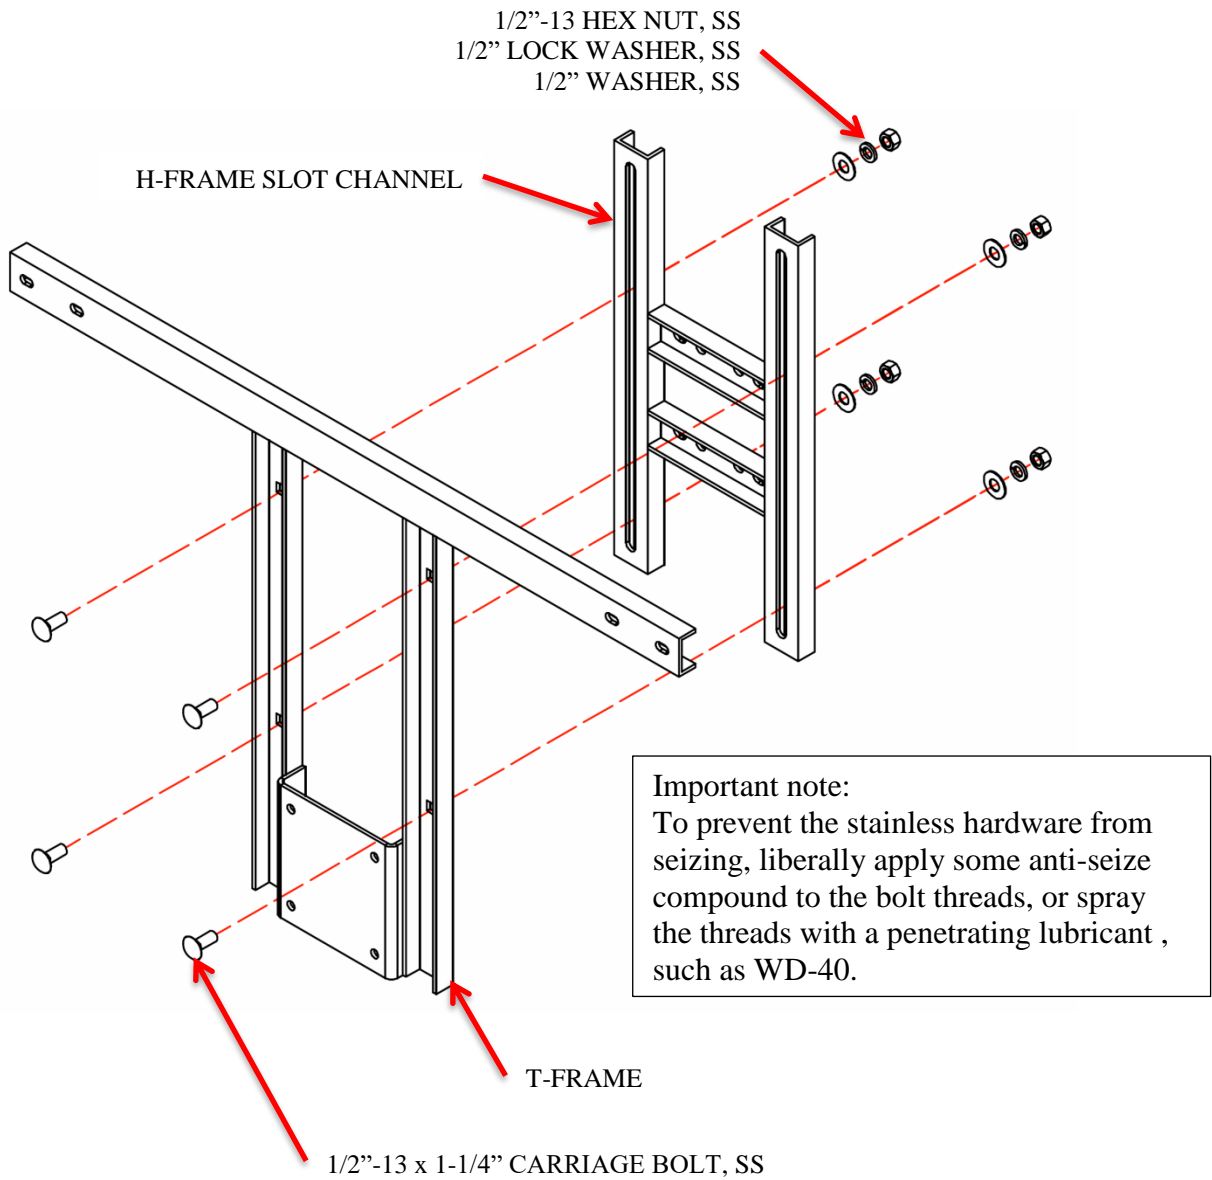

**Figure 5**
1. Attach the H-Frame gooseneck bracket together (Figure 5).